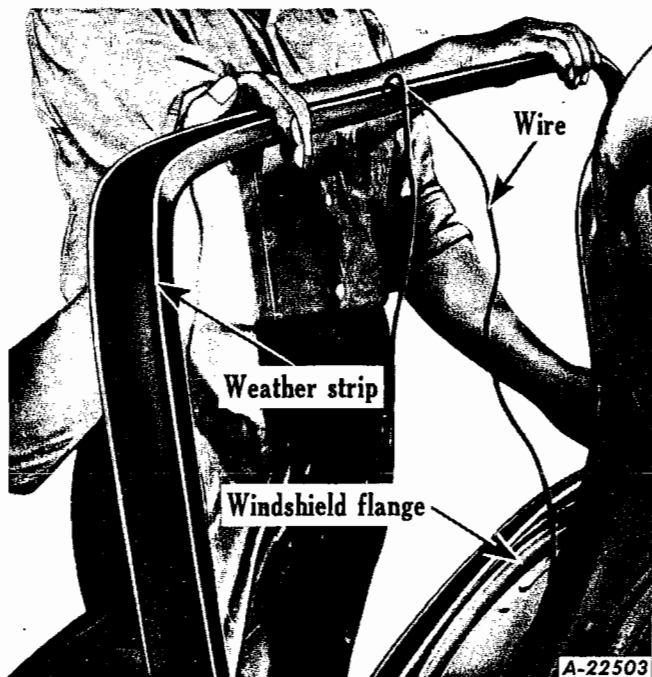

Fig. 24
4. By means of an assistant, carefully place the windshield with weather strip attached in position in the cab opening. The illustration shows the cord used for installing the glass terminating at the top of the windshield. The cord may be installed with the ends at the bottom of the glass. The manufacturer mark or name on the glass is at either of the lower corners of the glass and is generally installed in this position on all windshields of this type. See Fig. 24.